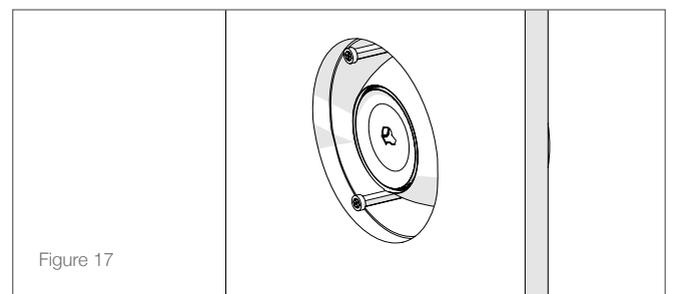

Figure 17
2. Place the Josh Micro device onto the mounting ring plate (see Figure 17).